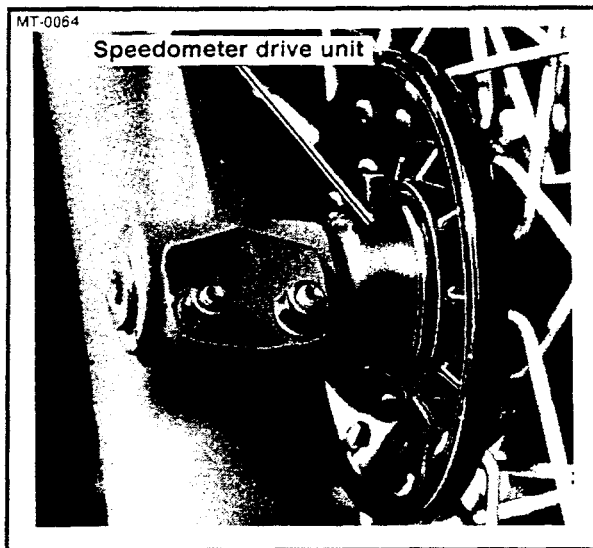

Figure 5-50. Speedometer Drive Unit
1. See Figure 5-50. Position speedometer cable drive unit on wheel hub. Be sure both parts are completely engaged.